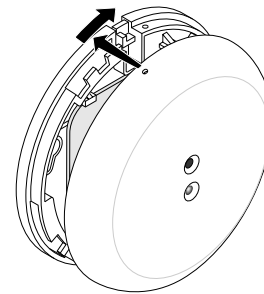

Figure 5. Attaching the Cover
7. To replace the cover, line up the tabs on the base with the corresponding tabs on the cover, press together and turn clockwise until the cover snaps firmly into place. See Figure 5.